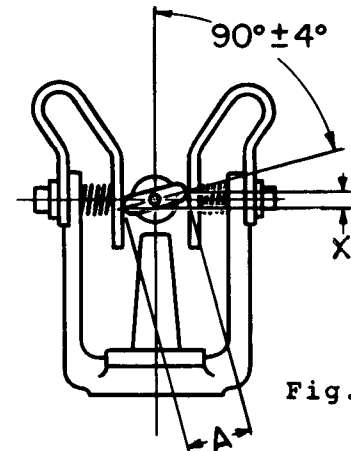

Fig. 1
Fig. 1. shows blade in closed position. The allowable difference in elevation from one side of the blade contact to the other (dimension X) is  $1/16''$  for each 1" of contact width. Example: If contact width (A) is 3" then dimension(X) can be as much as  $3/16''$  and still be within the plus or minus  $4^\circ$  tolerance.
Also, Fig. 1 shows blade contact high on the right and low on the left. The reverse is also acceptable, high on the left and low on the right. It is common to have both situations on one three-pole switch. In fact, after all three poles have been adjusted in the open position, and then closed, you may find one pole will be high on the right, one fairly level and one high on the left. This is due to many variables and tolerances plus the free play or clearance in pin connections of all the switches and control parts.